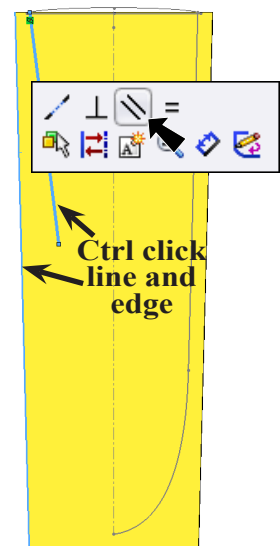

Fig. 45
Step 7. **Click line and Ctrl click edge of body, Fig. 45.** To Ctrl click, click line, then hold down Ctrl key and edge of body.
Step 8. Click **Make Parallel**  on the Content menu, **Fig. 45.**